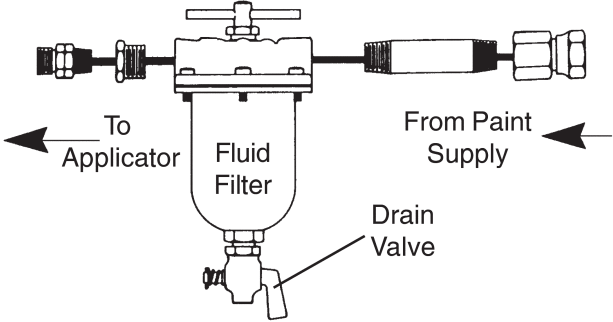

Figure 5: Typical Fluid Filter Installation
1. Install a fluid filter on the output of fluid supply, as shown in Figure 5.